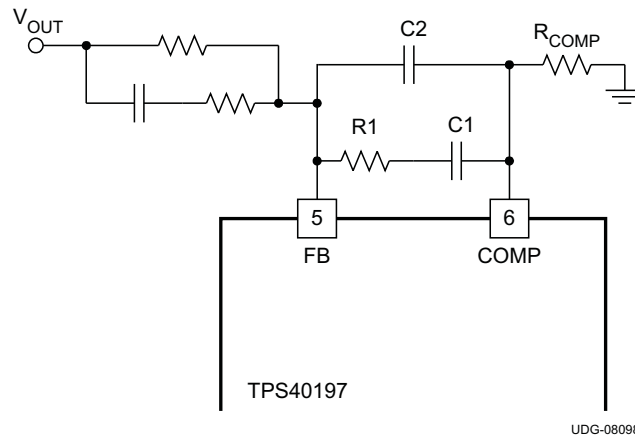

Figure 16. Short Circuit Threshold Feedback Network
- R1 and C1 are the values of the components in Figure 16 (1)